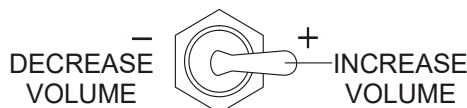

Figure 27. Volume Control
2. Slide the **Volume Control Switch** (Figure 27) to the right to increase the volume to approximately **10 strokes per minute**. Sliding the volume control to the left will **decrease** pump volume.
7. Slide the **Volume Control Switch** (Figure 27) to the right to increase the volume to 25-30 strokes per minute. Slowly discharge the concrete from the ready-mix truck into the hopper and completely fill it. Keep the pump running continuously until concrete is discharging at the end of the delivery system. If the pump is stopped during this procedure, a blockage may occur.